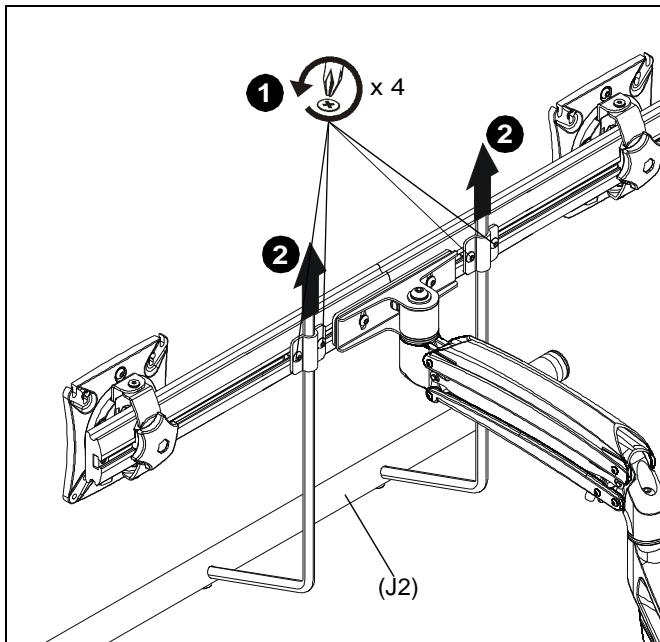

Figure 10
1. Loosen four screws securing handle brackets to K1W22/K1S22 array. (See Figure 10)
2. Install uprights of handle (J2) into handle brackets located on the back of array. (See Figure 10)